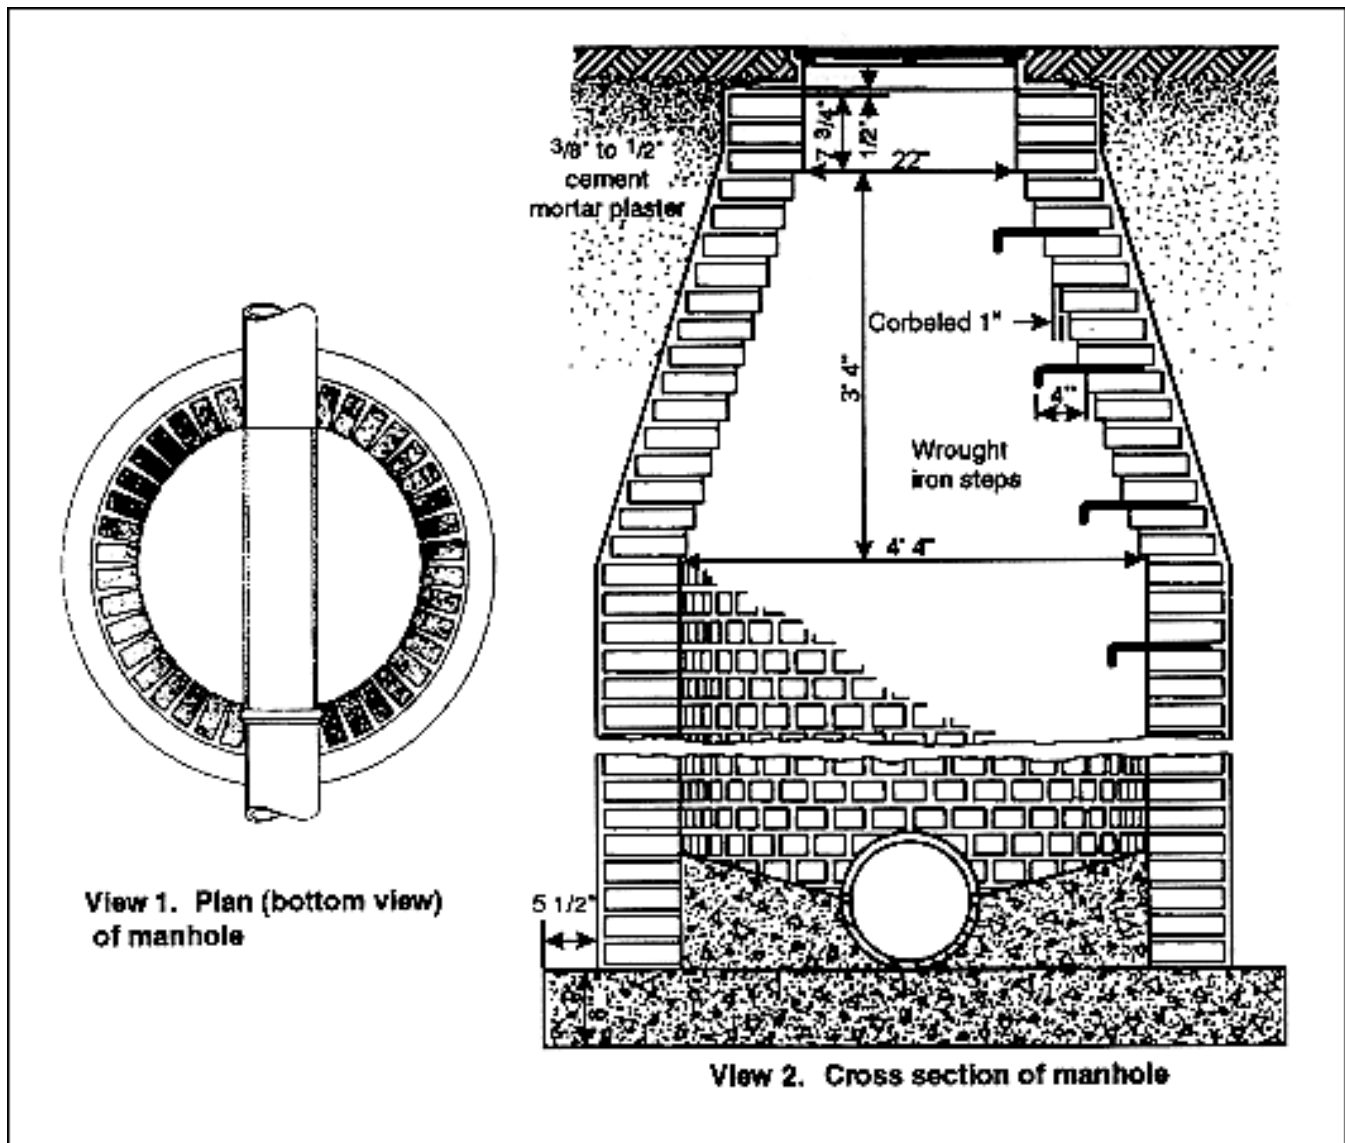

Figure 9-40. Construction details of a sewer manhole
9-86. Sewer systems require man-holes (see Figure 9-40) for cleaning and inspection. The manhole size largely depends on the sewer size. Manholes are either circular or oval to reduce the stresses from both water and soil pressures. A 4-foot diameter manhole is satisfactory for small,
straight-line sewers. Construction details of a typical manhole are shown in view 2 of Figure 9-40. Although both the bottom and walls of a manhole are sometimes made from brick, the bottom is normally made from concrete because it is easier to cast in the required shapes. However, you can construct the walls more economically from brick, because it requires no form work.
- Corbeling. To reduce the manhole diameter to fit the frame and cover, corbel the brick inward as shown in view 2 of Figure 9-40 above. No brick should project more than 2 inches beyond the brick underneath it. Space the wrought-iron steps about every 15 inch vertically, and embed them in a cross mortar joint. When complete, plaster the wall on the outside at least 3/8-inch thick with the same mortar used in laying the brick.